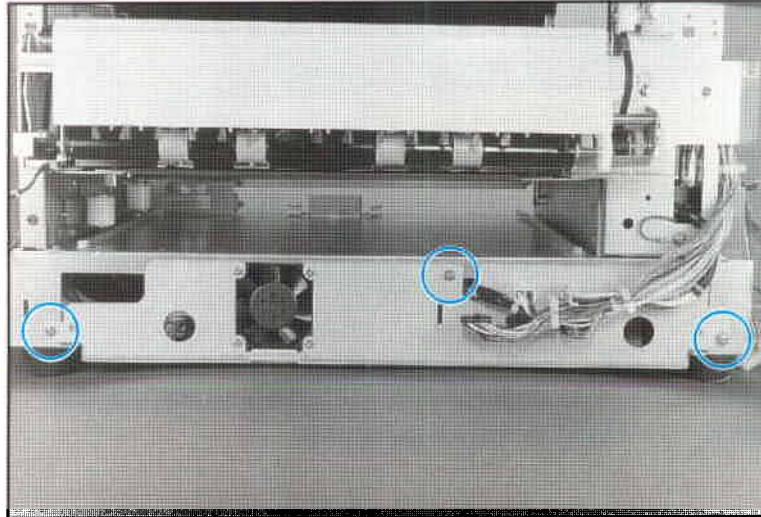

Figure 6-35 DC Power Supply Screws
2. Unplug the connectors from the front of the Power Supply Tray and remove the cables from the cable stays. (See Figure 6-35.)
3. Remove (3) screws shown in Figure 6-35.
4. Slide the tray out the front of the printer to access and unplug (4) remaining connectors (only 2 on the Color LaserJet 5/5M).